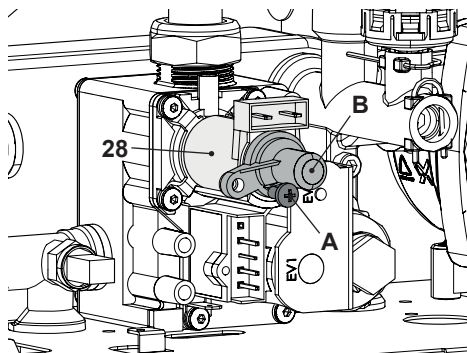

Figure 7.1
- Unscrew the screw A and remove the protective cap B of the modulating operator 28 in Figure 7.1.